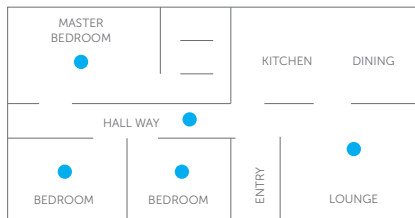

Figure 2
- Mount alarms close to the centre of rooms, ideally on the ceiling for residential settings (see Figure 2).